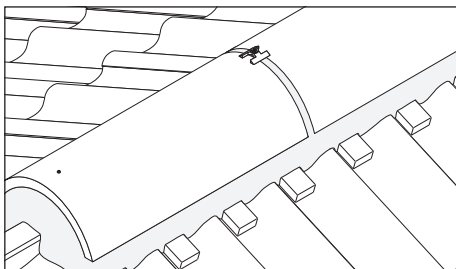

Fig. 5 – Mechanically fix all ridge tiles
- 5 To mechanically fix the ridge tiles push a plastic ridge clamp centrally between the ridge tiles into the wet mortar and secure in place by driving the 75mm stainless steel screw provided into the ridge batten (Fig. 5).